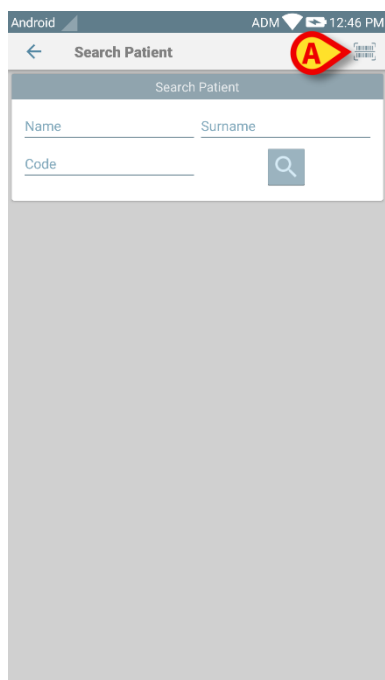

Fig 30
- Touch the  icon indicated in Fig 30 **A**.